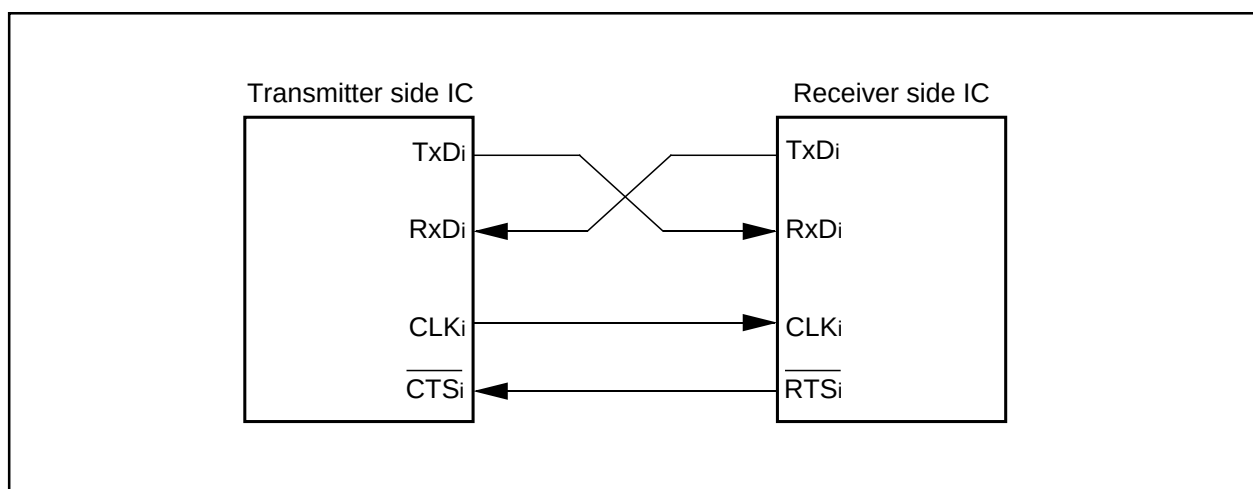

Figure 2.3.11. Example of wiring
- (1) With an external clock selected, and choosing the $\overline{\text{RTS}}$ function, the output level of the $\overline{\text{RTSi}}$ pin goes to “L” when the data-receivable status becomes ready, which informs the transmission side that the reception has become ready. The output level of the $\overline{\text{RTSi}}$ pin goes to “H” when reception starts. So if the $\overline{\text{RTSi}}$ pin is connected to the $\overline{\text{CTS}}$ pin on the transmission side, the circuit can transmission and reception data with consistent timing. With the internal clock, the $\overline{\text{RTS}}$ function has no effect. Figure 2.3.11 shows an example of wiring.